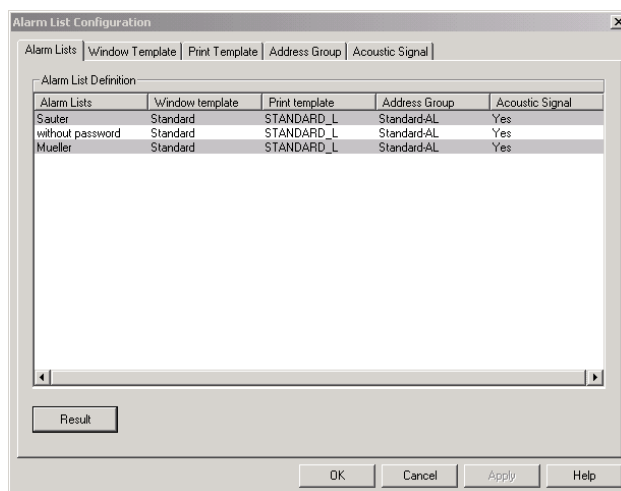

Fig. 6-1: Alarm list configuration – User tab
- 2. Call up the "Alarm list configuration" window from the "File | Configuration → Alarm list" menu (see Fig. 6-1)**
An individual alarm list profile comprising a window template, a print template and an address group is selected for each user on the "Alarm list configuration user tab" (see Fig. 6-1).